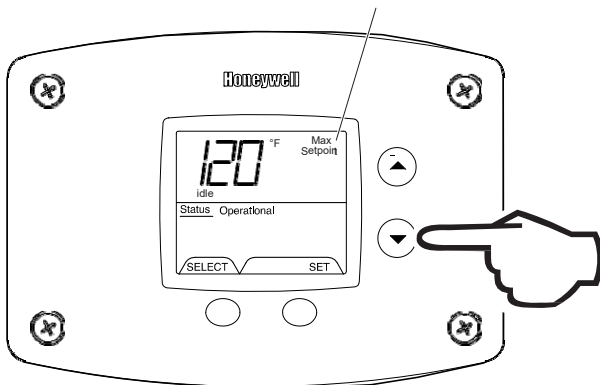

Fig. 53
3. Press the 'UP' or 'DOWN' buttons to change the maximum setpoint value. This will limit the maximum setpoint the user can select. Note: The maximum setpoint is approximately 180°F (Fig. 53).